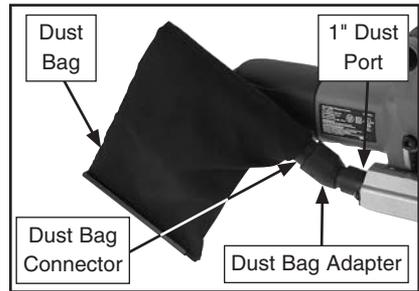

Figure 9. Dust bag installed.
1. Push small end of dust bag adapter into 1" dust port, as shown in **Figure 9**.